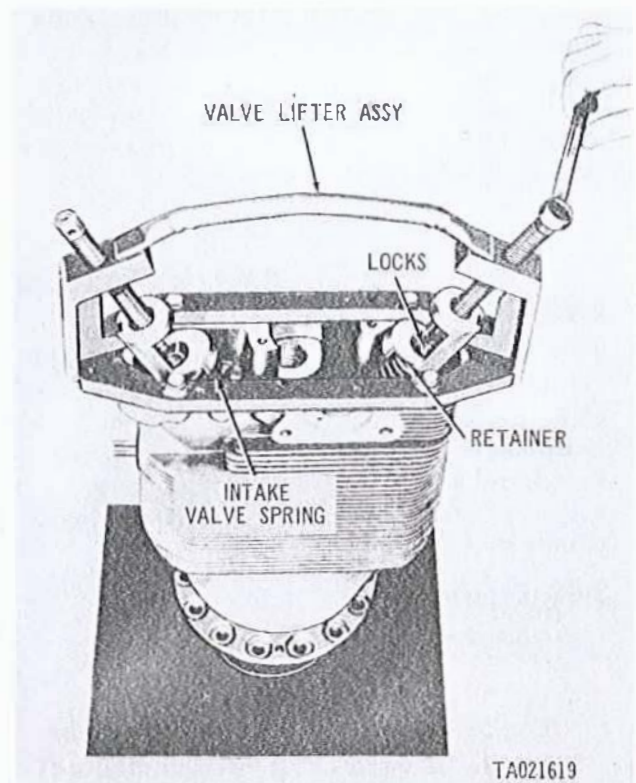
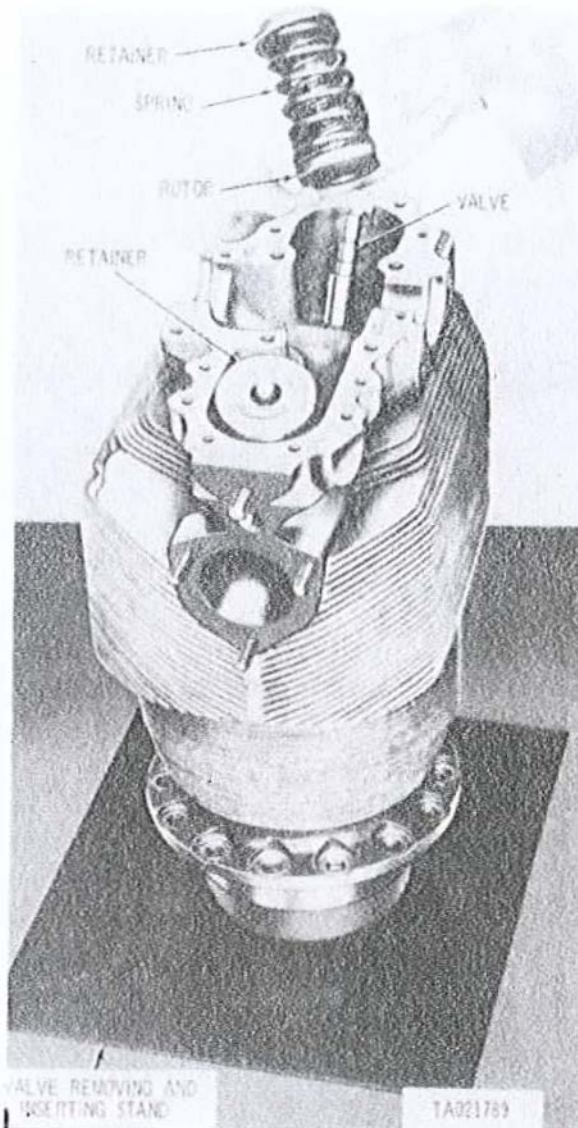

Figure 3-187. Compressing exhaust valve springs to remove or install upper valve spring retainer locks.
Figure 3-188. Removing or installing valve springs, upper retainers, and exhaust valve rotor.
(3) Compress exhaust valve spring and upper retainer. Remove two valve locks (fig. 3-187), from the groove in valve stem. Tap valve spring retainers to free locks. Carefully loosen lifter screw to release valve springs. Remove valve lifter assembly.
(4) Remove intake valve spring upper retainer.
(5) Remove exhaust valve inner, intermediate, and outer valve springs, upper retainer and exhaust valve rotor (fig. 3-188), from valve stem. Remove intake valve springs, retainer, and seat in the same manner.
(6) Remove the cylinder from removing and inserting valve stand (fig. 3-188) making certain valves do not drop out. Replace cylinder on side and remove the intake and exhaust valves through the cylinder bore.